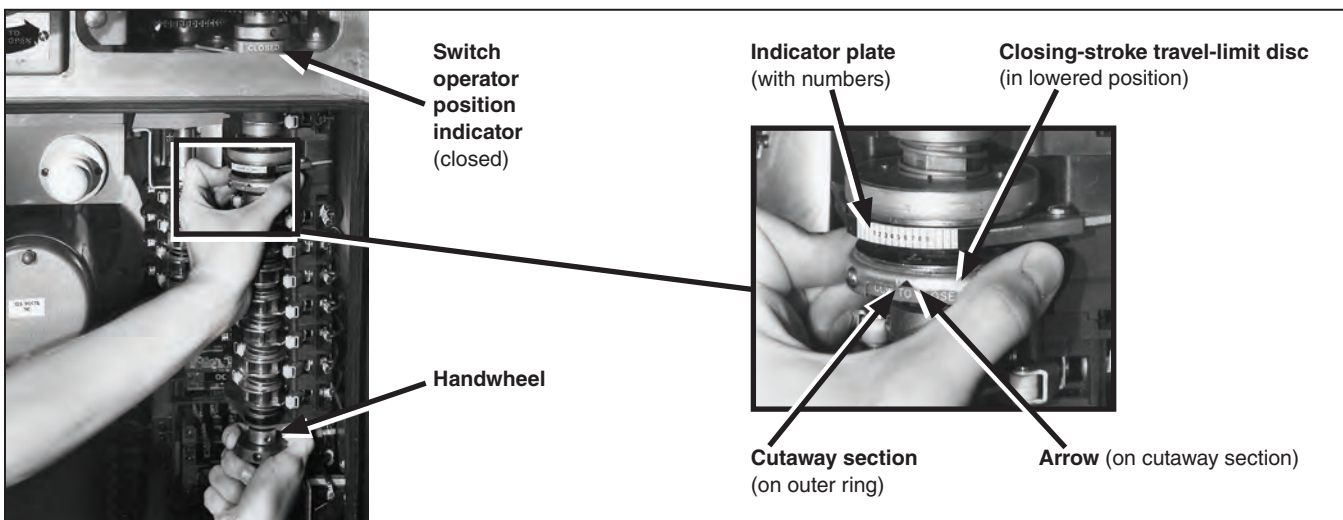

Figure 60. Adjustment of closing-stroke travel-limit disc.
- Grasp the handwheel and turn it to the extent possible in a direction *opposite* to the direction the output shaft rotates to close the disconnect. See Figure 60.